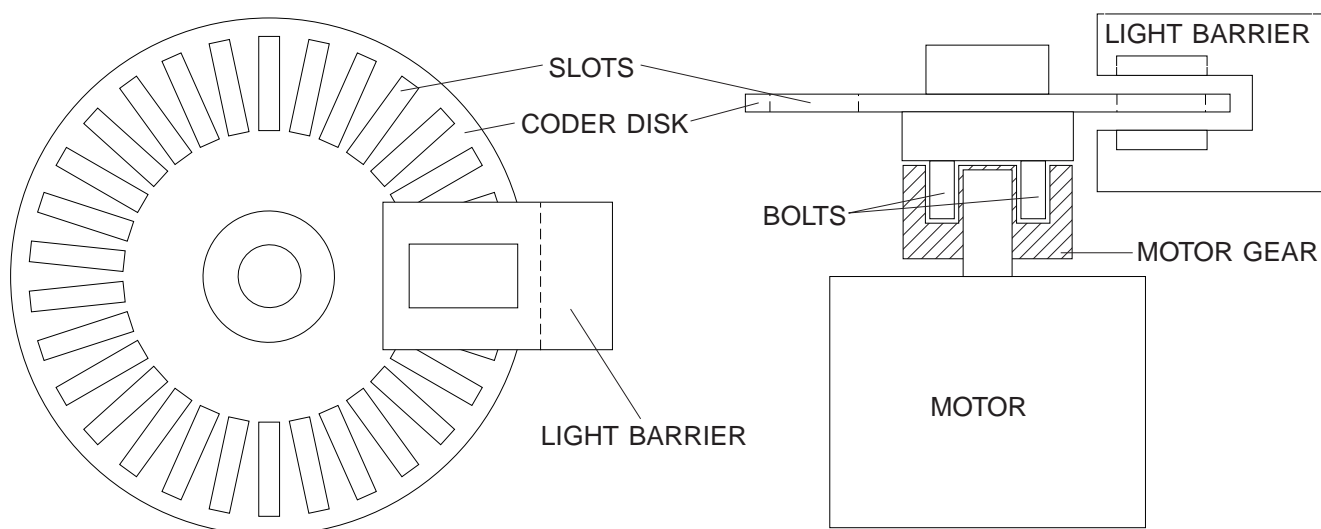

figure 6-2
- Check bolts for proper fitting (see figure 6-2).